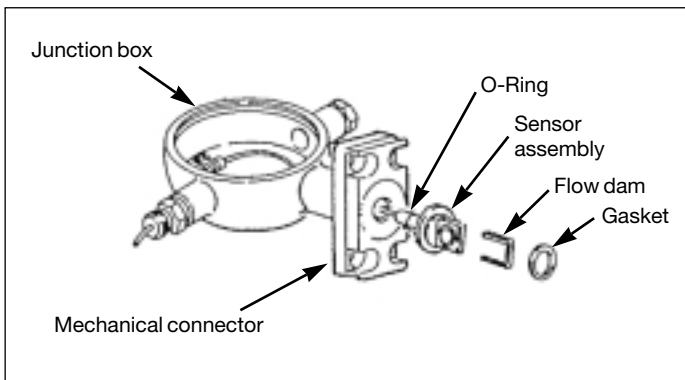

Figure 37. Sensor/Mechanical Connector/Junction Box
- Slide the sensor and out of the mechanical connector as shown in Figure 37.
- Carefully feed sensor lead through hole in mechanical connector and gently pull sensor lead out of junction box until sensor is touching the mechanical connector. See Figure 37.